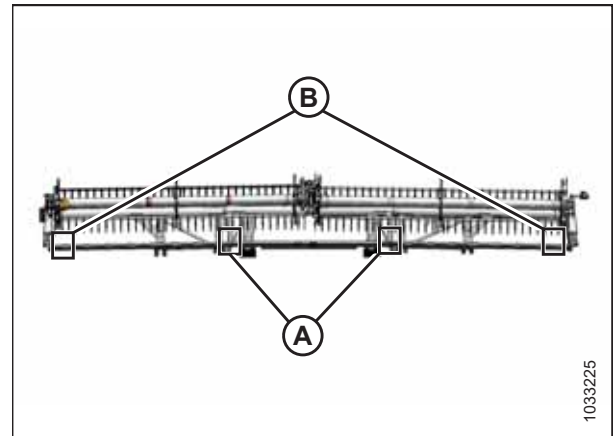

Figure 6.56: Measurement Locations – Double Reel Shown
- Figure 6.56, page 163 – FlexDraper® Header